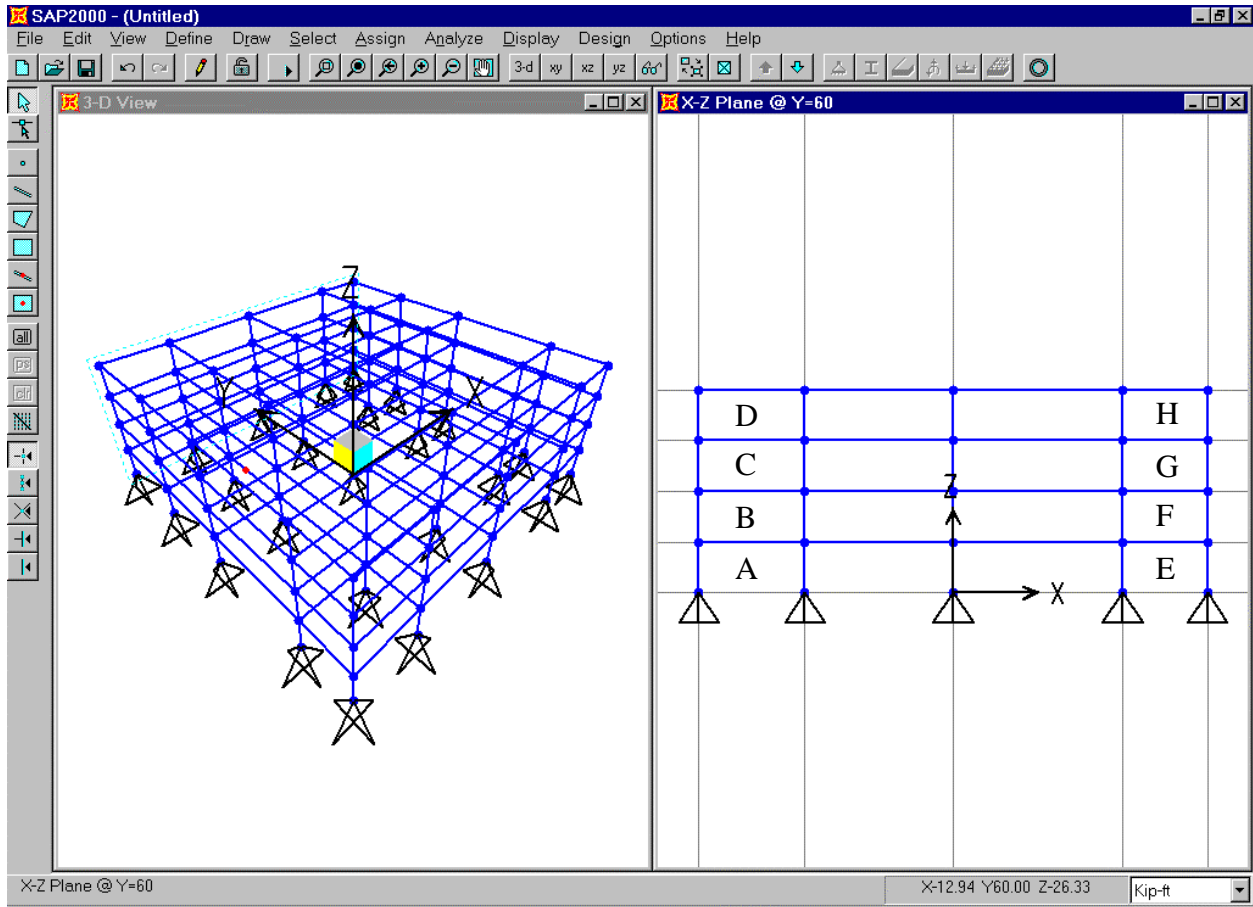

Figure Z-1: Screen After Step 14
14. Click the **xz 2D View** button  on the main toolbar. The view switches to the X-Z plane @ Z=60 and appears as shown in Figure Z-1.
16. Click once in each of the area labeled “A”, “B”, “C” and “D” in Figure Z-1 to enter four shell elements.
- Click the **OK** button. The screen appears similar to that shown in Figure Z-1 (except that the location is now at Y=-60).
19. Click once in each of the area labeled “E”, “F”, “G” and “H” in Figure Z-1 to enter four shell elements.